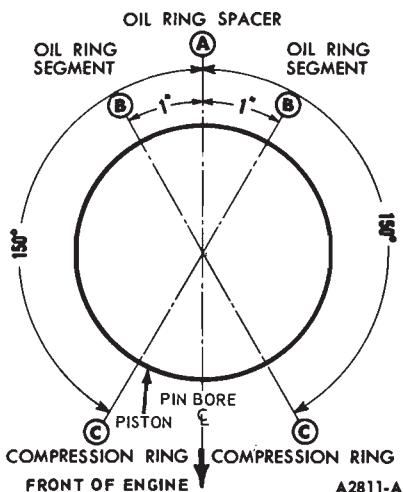

FIG. 36—Piston Ring Gap Spacing
3. Make sure the ring gaps are properly spaced around the circumference of the piston (Fig. 36).
into the piston. Check the end gap of all piston rings (Part 21-01). It must be within specifications. Follow the instructions contained on the piston ring package and install the piston rings. Be sure the piston ring gaps are properly spaced (Fig. 36).